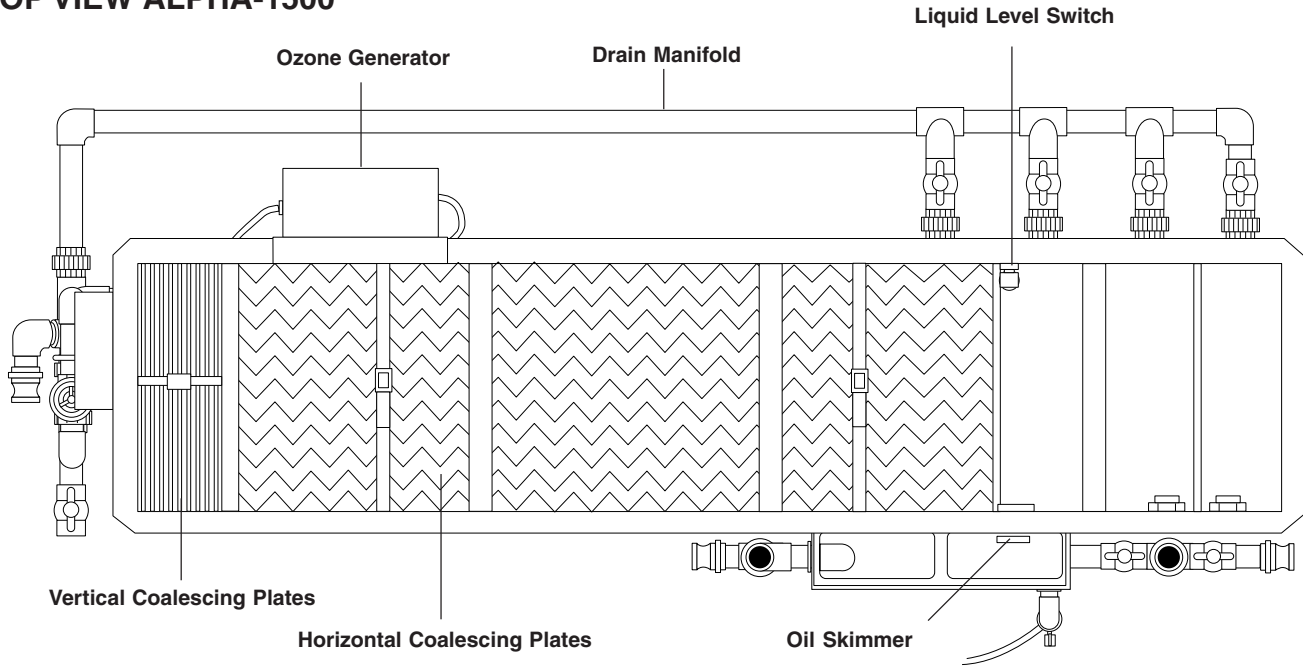

Figure 5
- Check the overflow shutoff switch by manually lifting the liquid level switch (see Figures 5 & 6).
- Remove the vertical coalescing pack (see Figures 5 & 6 for location). To remove, lift with the nylon strap that surrounds the coalescing pack.